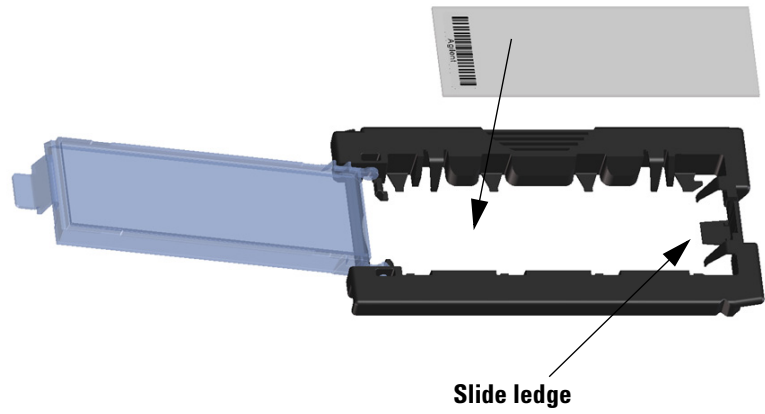

Figure 9 Inserting slide into the slide holder
- c Carefully place the end of the slide without the barcode label onto the slide ledge. See Figure 9.